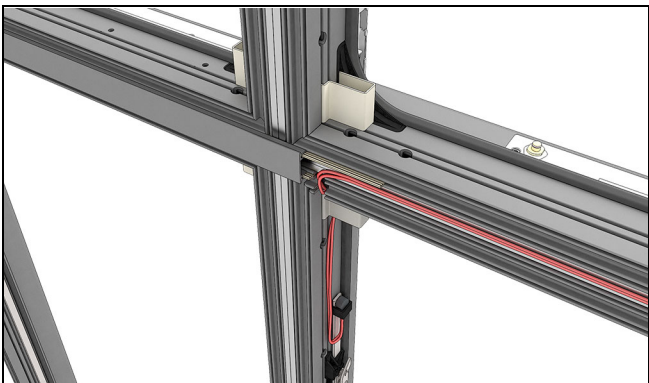

Figure 40 Horizontal Standard Mull
3. **Horizontal Mulls:** first unlock the window that houses the sensor. See Figure 40. Fish the wire through the notch in the head jamb. Run the wire down the length of the mull pin being sure not to pinch the wire with the mull cover.